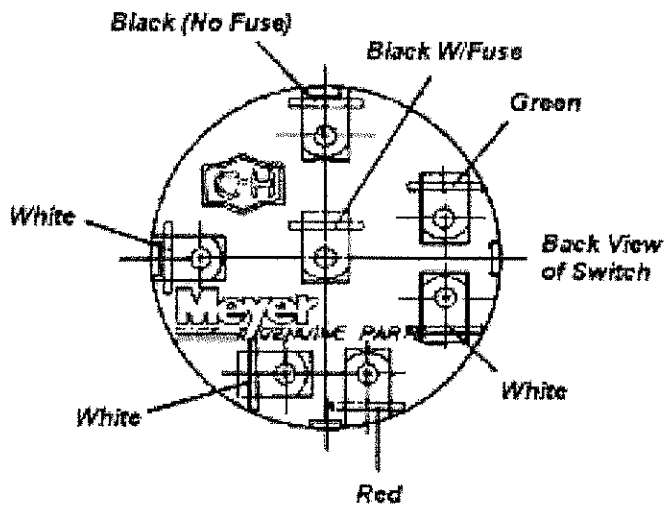

Figure 4
- H. Plug the spade terminals onto the Control Switch (1) as shown in Fig. 4.